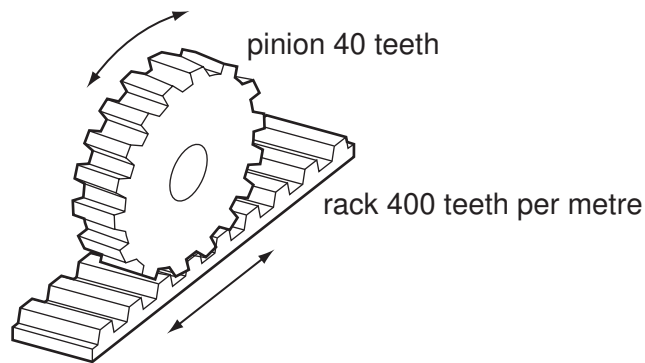

Fig. 11
(d) Fig. 11 shows a rack and pinion mechanism.
- (ii) For the rack and pinion system shown in Fig. 11, calculate the distance moved by the rack for one rotation of the pinion gear wheel.